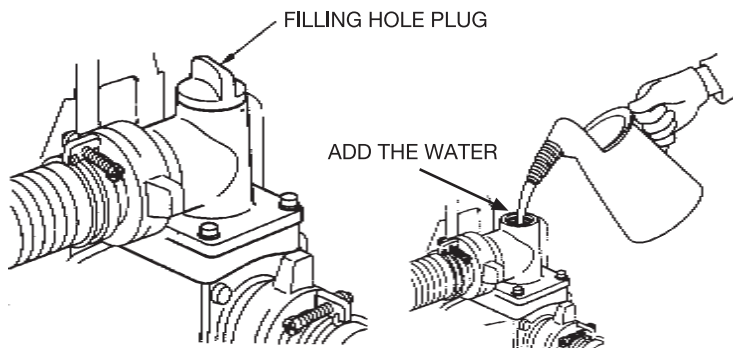

Fig. 4
6. Check the pump (as shown on the Fig.4)